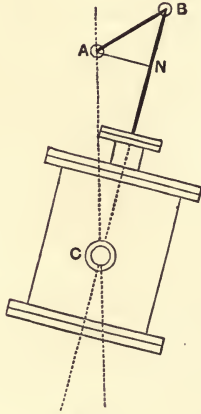

Fig. 1.
1. Fig. 1 illustrates the mechanism of the oscillating cylinder engine. If the crank  $A$  rotates with uniform angular velocity  $\omega$  determine the angular velocity of the cylinder in the position shewn.